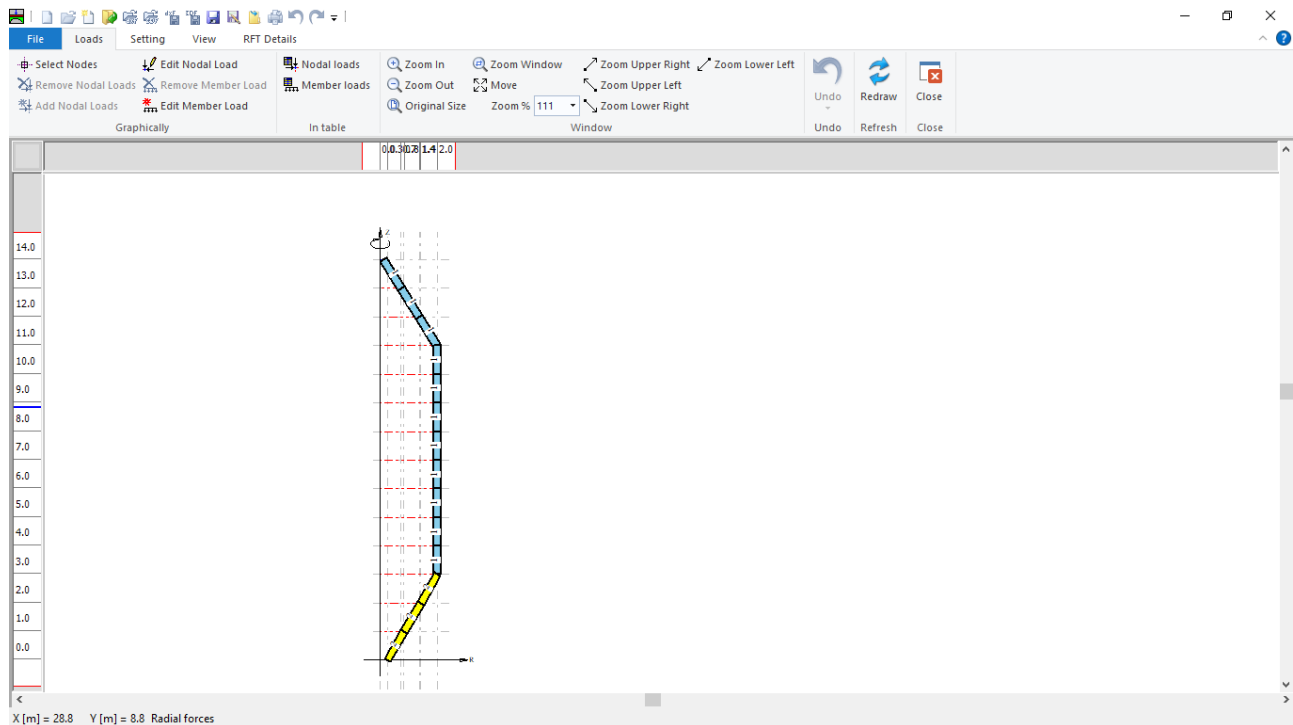

Figure 13.21 "Loads" Window
To define the loads, choose "Loads" command from "Data" Tab. The following window in Figure 13.21 appears.
In *ELPLA*, entering loads may be carried out either numerically (in a table) or graphically using the commands of "Loads" Tab in Figure 13.21. In this example, there is not applied load, as the lateral load on the main wall has been already defined by  $P_h$ .
- Choose "Save" command from "File" menu in Figure 13.21 to save the load data
- Choose "Close" command from "File" menu in Figure 13.21 to close the "Loads" window and return to *ELPLA* main window